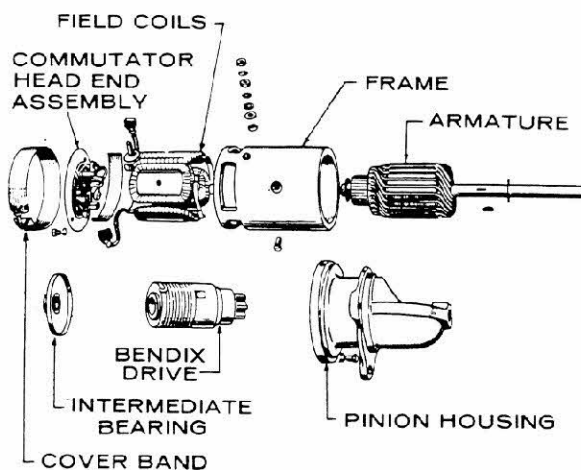

FIGURE 33. GEAR DRIVE STARTER
6. **Gear Drive Starter Only:** The entire assembly is mounted on the armature shaft. When disassembling the starter, pay particular attention to the various parts and their positioning in the starter assembly (Figure 33). If the gears of the pinion are damaged, replace the entire pinion. Inspect the screw shaft for rust and burrs.